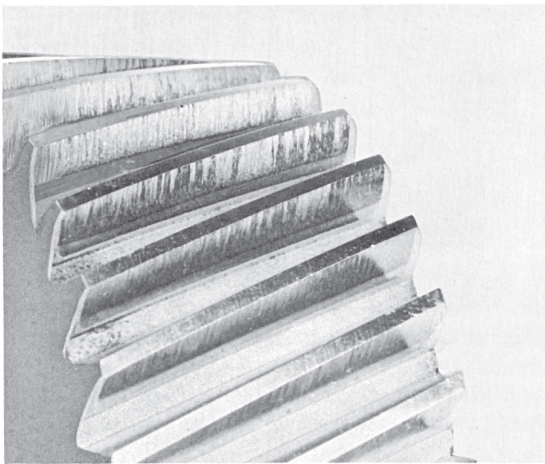

Figure 53
- (1) Score marks on the teeth are an indication that the film thickness of the oil is insufficient for the loads imposed. Score marks are vertical marks on the teeth from the top of the teeth to the root (see Figure 53).
For more detailed descriptions, illustrations, causes, and remedies, see ANSI/AGMA Standard 110.04. Note also, Figures 53 and 54 were extracted from "AGMA Standard Nomenclature of Gear Tooth Failure Modes" (AGMA 110.04), with the permission of the publisher, The American Gear Manufacturer's Association, Suite 1000, 1901 North Fort Myer Drive, Arlington, Virginia 22209."